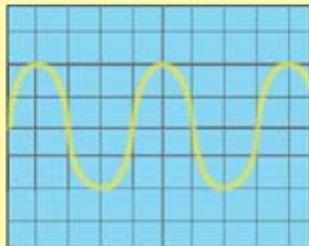

Figure 6.21
13. Turn on the time-base knob. Observe and record the trace displayed on the screen as shown in Figure 6.21.